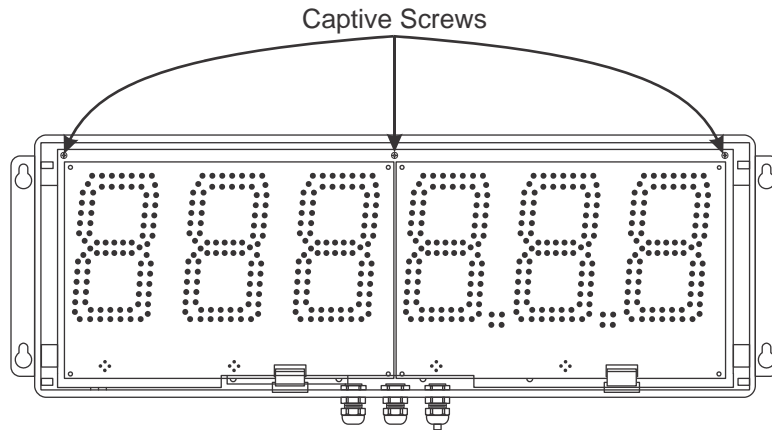

Figure 3.2 Open enclosure
1. Remove the three (3) captive screws holding the electronics plate to the main enclosure. See Figure 3.2.